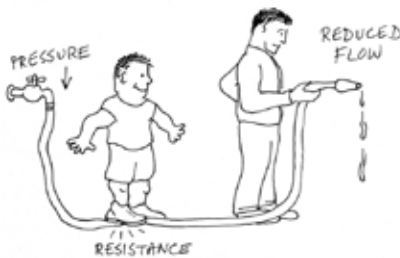

Figure 1-34. Larger resistance results in smaller flow—but if you increase the pressure, it may overcome the resistance and increase the flow.
- Lower resistance allows more current to flow (Figure 1-34).